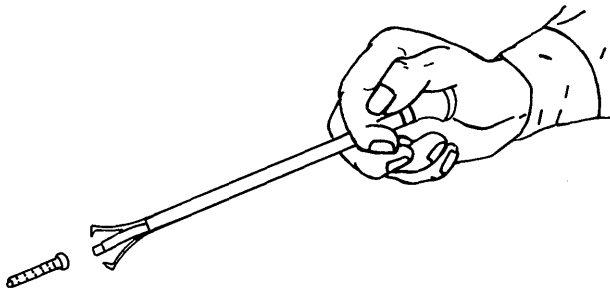

Figure 7-12. Mechanical Fingers
a. Description. The mechanical fingers, shown in figure 7-12 and 7-13, is a flexible or fixed cable or tube with long flat springs running thru it. Applying or releasing pressure on the plate operates the mechanical fingers for retrieving hard to reach objects.